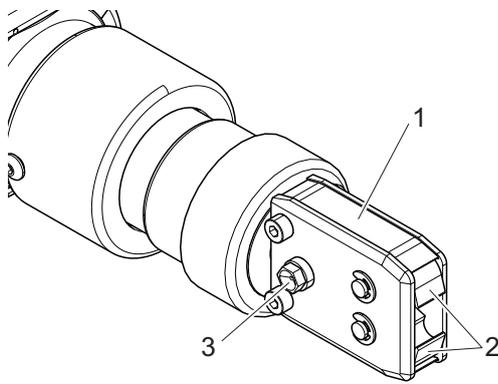

Fig. 24: Lubricating the pincer head
2. Lubricate the pincer head (Fig. 24/1) via the grease nipple (Fig. 24/3) using a grease gun with the special RENOLIT LX 2 lubricant.
3. Check the pincer jaws (Fig. 24/2) for wear and breakage at the clamping points and replace them if necessary (for item no., see tool catalog).